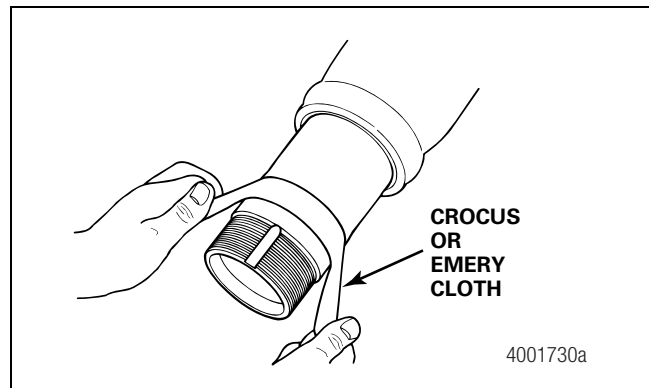

Figure 4.33
2. Check the axle spindle, axle collar and hub bore for scratches, nicks or marks. Repair them with a crocus or emery cloth. Figure 4.33.